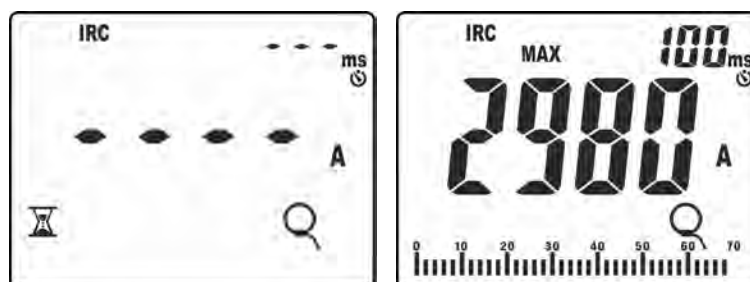

Fig. 41: Recognition of inrush current event
- Press key **GO/STOP** to activate the function. The instrument waits for the event to be recognized (measured value higher than the fixed trigger threshold equal to **1%FS clamp: e.g. 30A with FS = 3000A**) and shows symbol "⌚" on the display (see Fig. 41 – left side).
9. Upon recognition of the event, **measurement stops automatically** and the instrument shows, in its main display, the **Max RMS** value calculated according to the evaluation time of **100ms** (default) indicated on the secondary display (see Fig. 41 – right side).